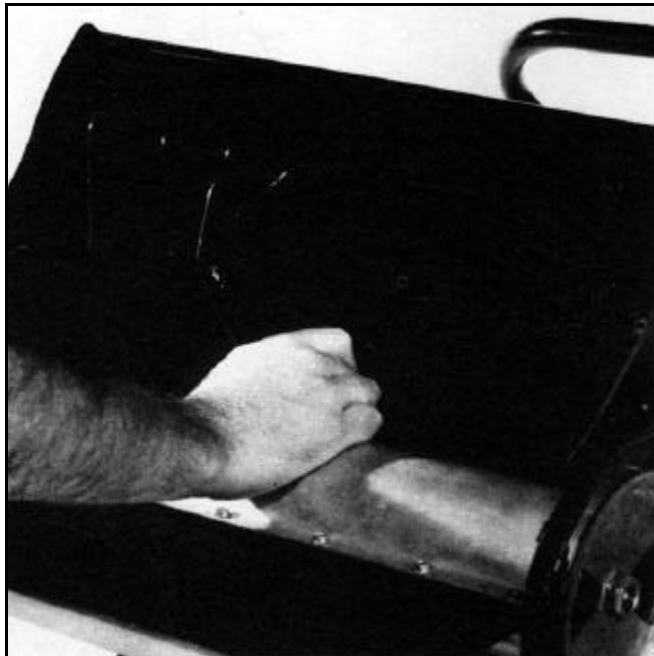

Figure 176
1. Holding the vane firmly at the base, slide the base of the vane into the small slot in the shroud (Figure 176).